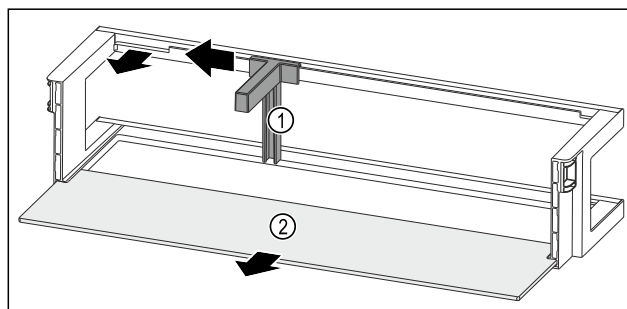

Fig. 92 Door rack with bottle holder and shelf
- Slide the bottle holder Fig. 92 (1) to the side as far as the recess.
- Remove the bottle holder Fig. 92 (1).
- Remove the shelf Fig. 92 (2).